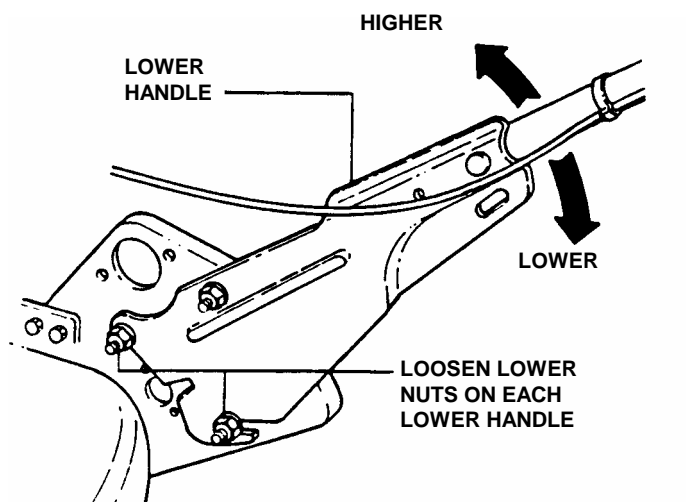

FIGURE 2.7
1. Loosen the nuts on each lower handle as shown in Figure 2.7.